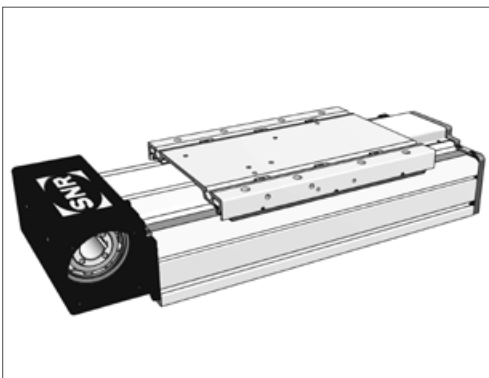

Figure 5.6 — AXDL with toothed belt drive
- 3 drive versions – toothed belt drive, screw drive or toothed belt / Ω - drive (Figures 5.6 up to 5.8)